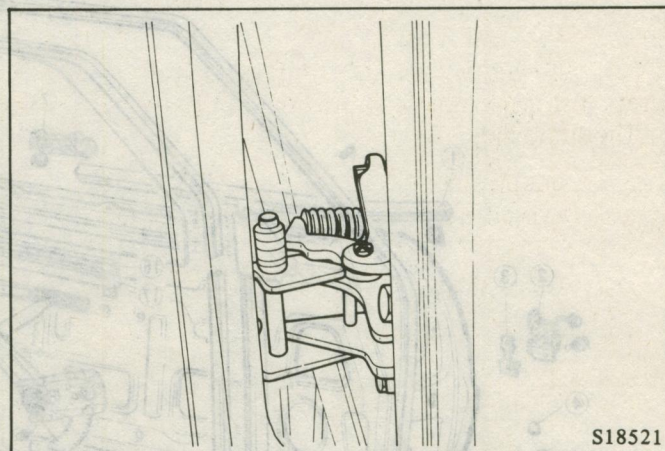

Fig. 48 Grease Applying Part
- (2) Apply an appropriate amount of grease to the lower hinge roller and cam sliding area. (Fig. 48)